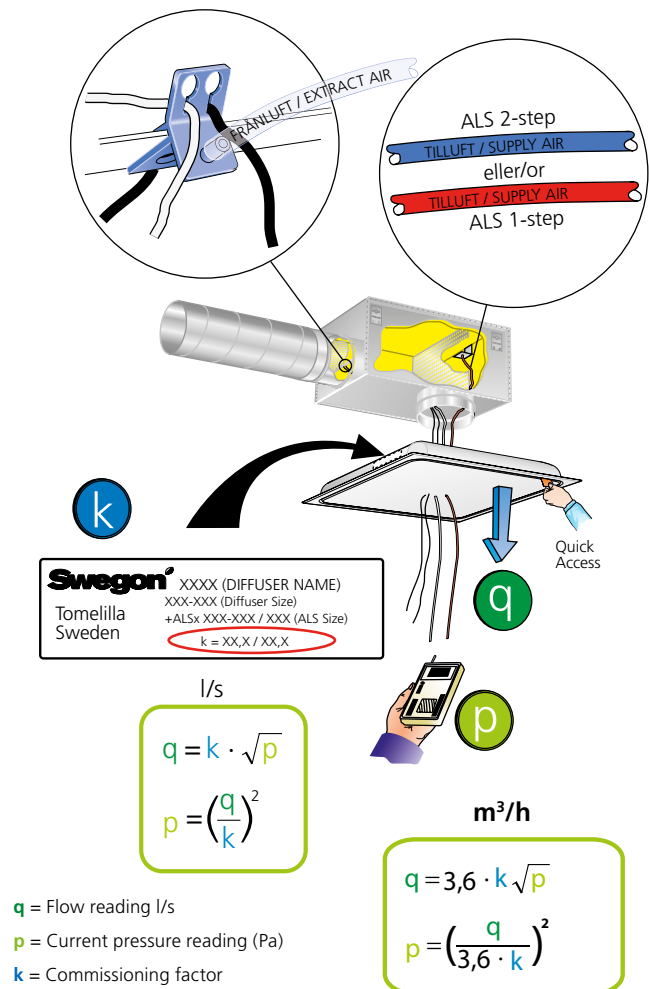

Figure 1. Commissioning with ALS.
- The required commissioning pressure can be calculated by means of the K-factor according to the formula in figure 1.